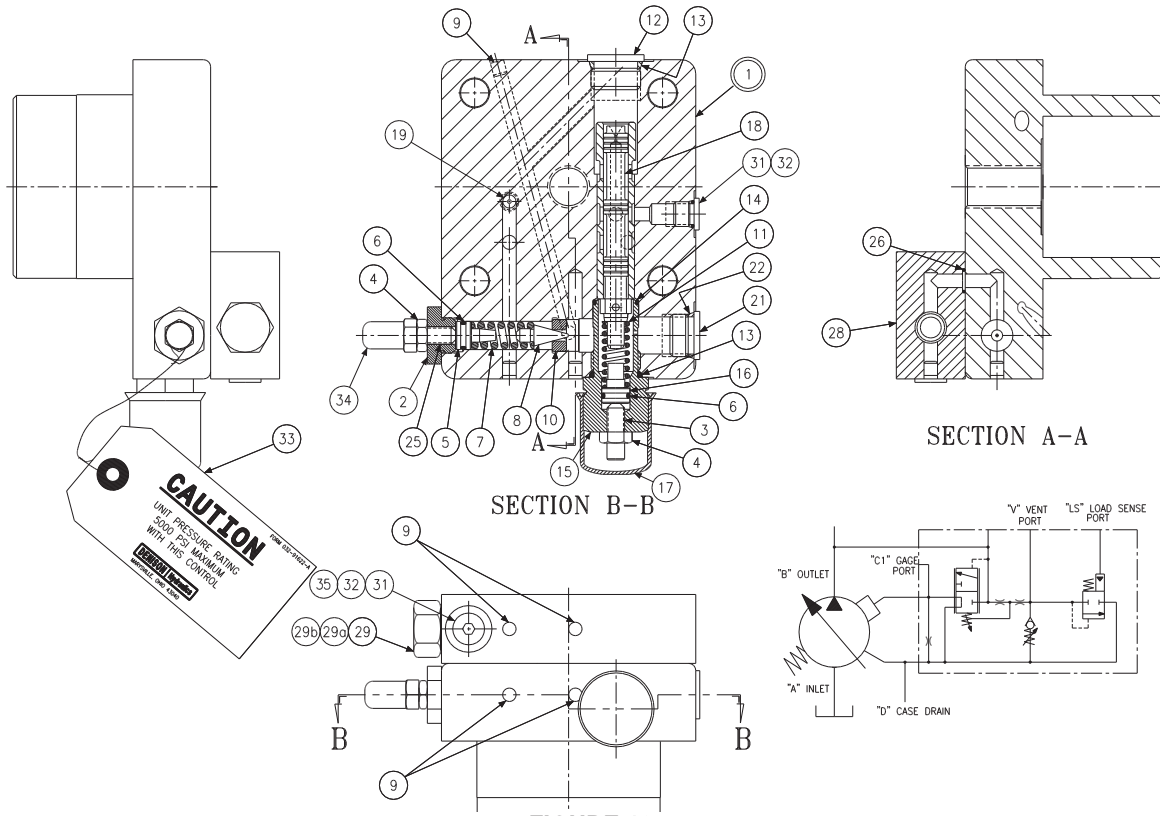

FIGURE 12
| 2 | *Load Sensing Control (Fig. 12) | S22-15536 | S22-15537 | 1 | — |
PARTS LIST FOR FIG. 12
1. See Figure 12 Back off max. volume screw or handwheel to full displacement. Remove max. volume assembly.
3. Remove isolation valve (29) from block (28). Remove plug (15) and attached parts. Remove spring (11) and spool (18).
4. Remove adj. plug (2) and attached parts. Remove seal piston (5). Note: a 10-24 screw may be used to assist in pulling the piston. Remove spring (7) and cone (8).
5. Do not remove sleeve in body (1). Sleeve is pressed into cap and finished to size. If sleeve or cap is worn, replace the cap-sleeve assembly (1).
6. Examine seat (10) for wear. Do not remove unless damaged.
Ref. Figure 12